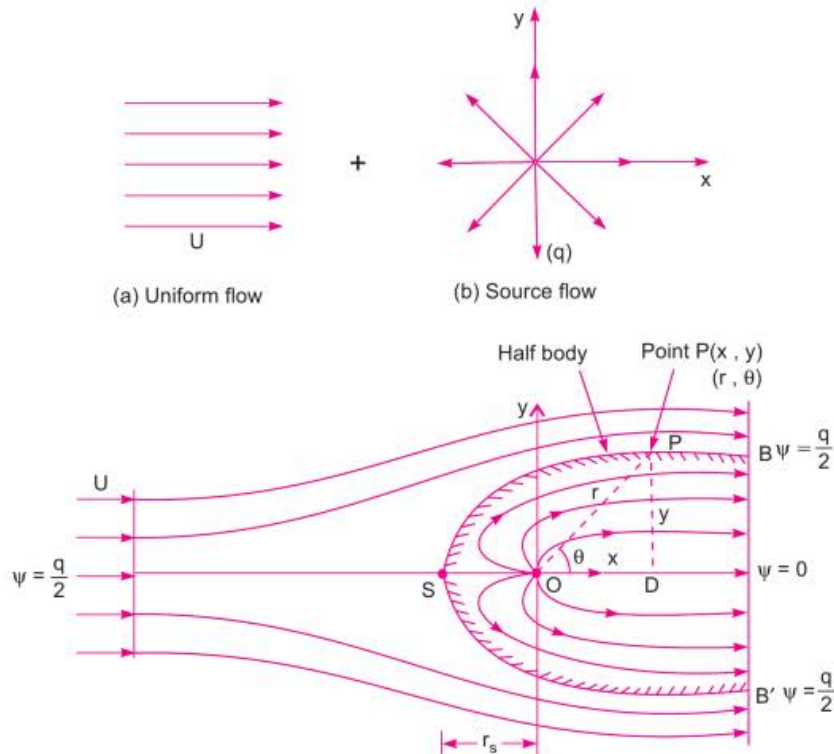

Fig. 5.46 Flow pattern resulting from the combination of a uniform flow and a source.
5.17.3 A Plane Source in a Uniform Flow (Flow Past a Half-Body). Fig. 5.46 (a) shows a uniform flow of velocity U and Fig. 5.46 (b) shows a source flow of strength q . When this uniform flow is flowing over the source flow, a resultant flow will be obtained as shown in Fig. 5.46. This resultant flow is also known as the flow past a half-body. Let the source is placed on the origin O . Consider a point $P(x, y)$ lying in the resultant flow field with polar co-ordinates r and θ as shown in Fig. 5.46.